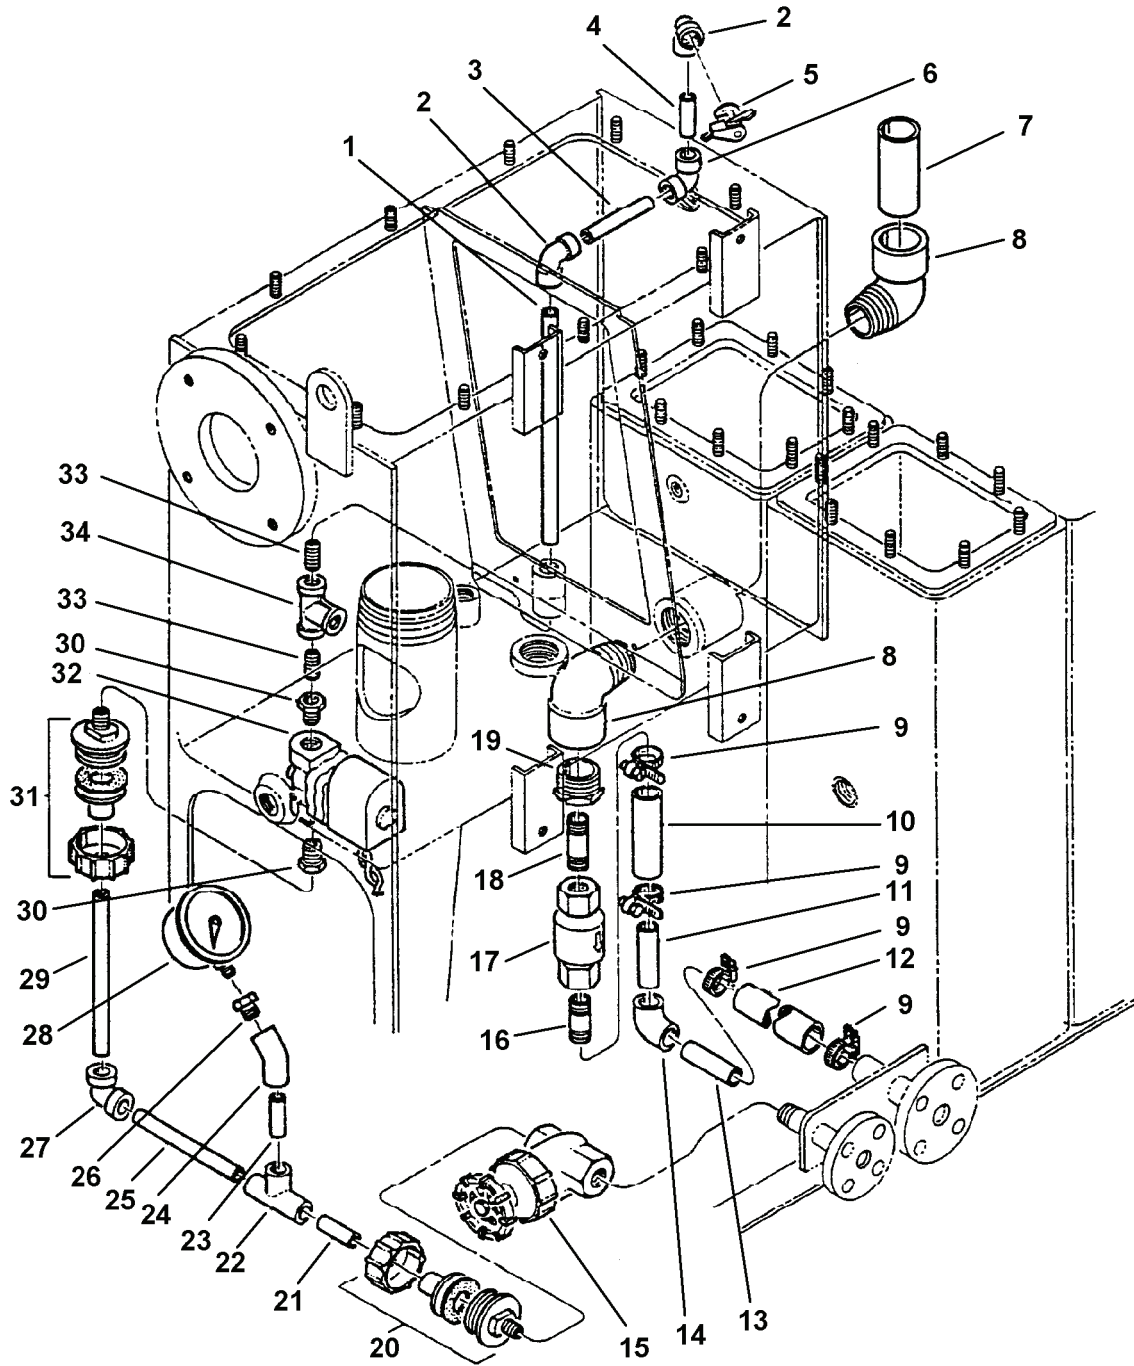

Figure 2-23. Backwash Piping Assembly Group.
## 2-20. Backwash Piping Assembly Group. (Figure 2-23)
- b. Remove the gate valve (15, Figure 2-23):
- (1) Disconnect the water supply line at the valve inlet coupling (20, Figure 2-23).
- (2) Remove the gate valve (15) from the pipe nipple.
- (3) Remove coupling half (20) and retain.
- c. Remove the dial indicating pressure gauge (28, Figure 2-23):
- (1) Unscrew gauge (28) from bushing (26). Remove the gauge by turning it counterclockwise.
- d. Remove the backwash solenoid valve (32):
- (3) Unscrew bushing (30, Figure 2-23) on bottom of backwash solenoid valve (32).
- (4) Unscrew solenoid valve (32) from upper bushing (30) and remove.
- e. Remove the discharge check valve (17):
- (1) Backwash solenoid valve.
- (2) Gate valve.
- (3) Pressure gauge.
- (4) Discharge check valve.
- a. Replace the ball check valve (17, Figure 2-23).
- (1) Replace lower section of piping (9, 11, 12, 13, 14 and 16).
- (2) Replace check valve (17) onto upper nipple (18) and replace reconnect lower nipple (16).
- (3) Replace hose (10) and hose clamps (9) onto lower nipple.
- b. Replace the backwash water solenoid valve (32, Figure 2-23).
- (1) Screw backwash solenoid valve (32) onto upper bushing (30).
- (2) Screw lower bushing (30) on bottom of backwash solenoid valve (32).
- c. Replace the dial indicating pressure gauge (28, Figure 2-23).
- (1) Apply Teflon Tape to the threads of the new gauge (28).
- (2) Install the gauge into the pipe bushing. Turn the gauge clockwise to install.
- (3) Align the gauge and secure the locknut at the base of the gauge and hand tighten.
- d. Replace the gate valve (15, Figure 2-23).
- (1) Apply Teflon Tape to the connections, and install the gate valve (15) to the coupling half (20) and the valve inlet coupling.
- (2) The water inlet is now connected to the sanitary unit. Close the valve by turning the handle fully clockwise.
- (3) Open the external water supply valve to the sanitary unit. Check for leaks at the inlet of the gate valve (15) and correct as required.